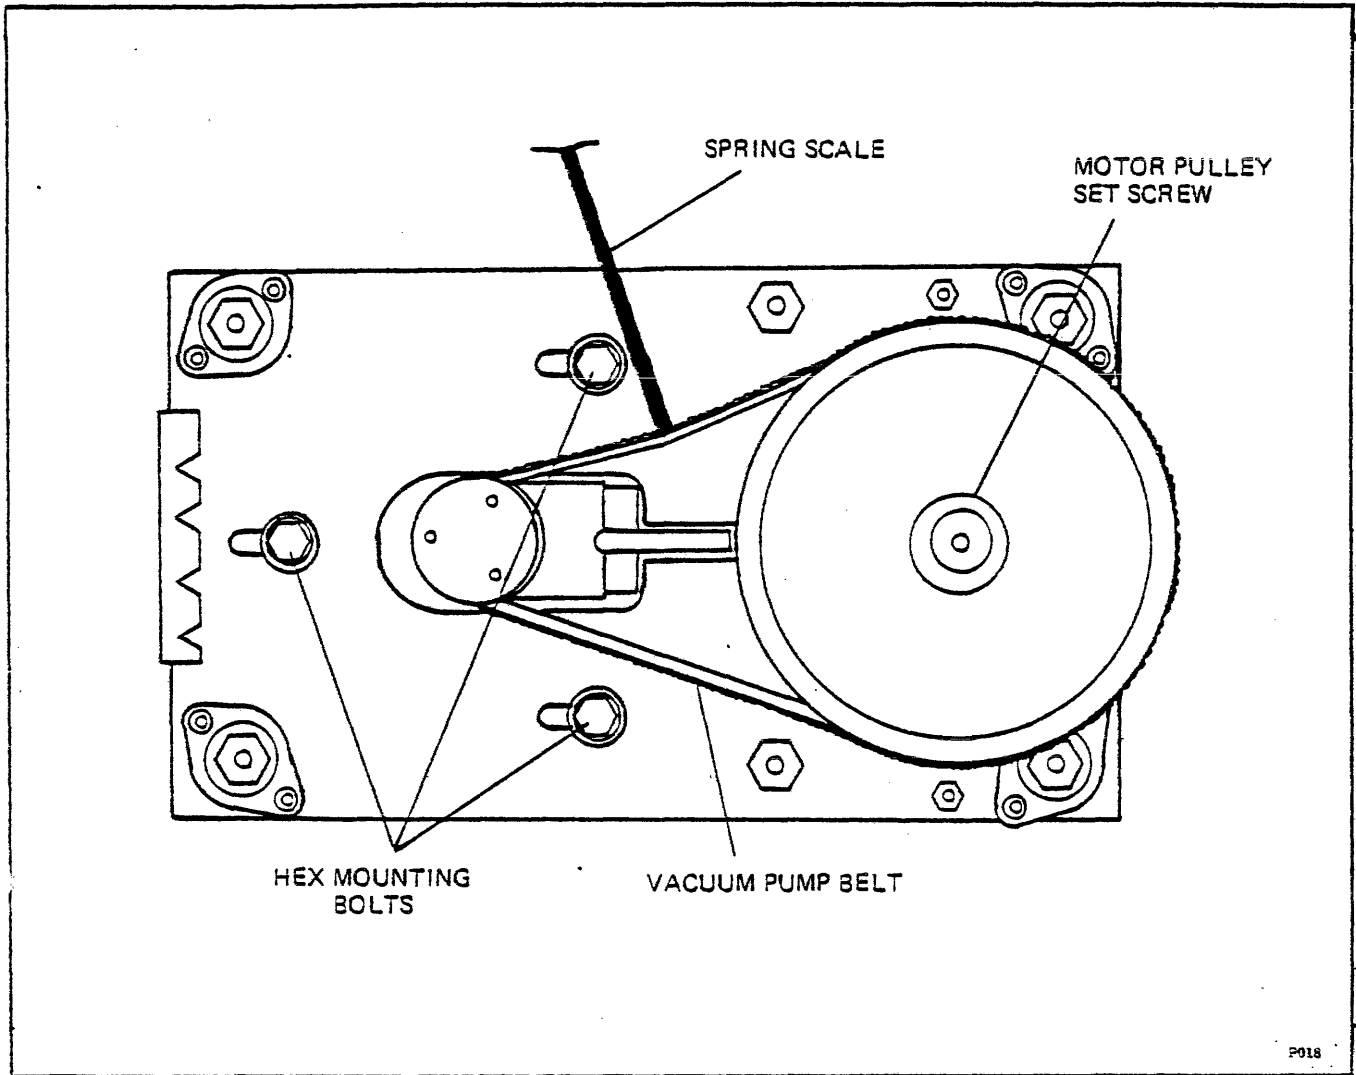

Figure 6-18. Adjustment of Vacuum Blower Motor Belt Tension
- k. Loosen three hex mounting bolts holding pump assembly in place, Figure 6-18.